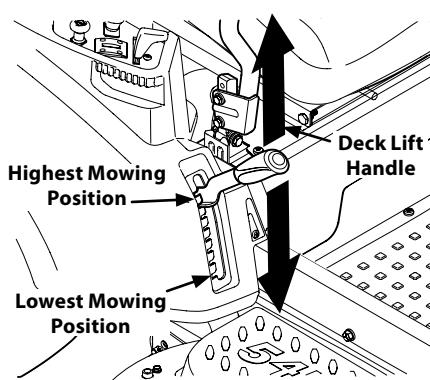

Figure 4-14
- Using the deck lift handle, raise the deck to the position that provides the most horizontal run of the belt between the deck idler pulleys and the PTO pulley on the bottom of the engine. See Figure 4-14.
- Lower the deck into the lowest mowing position using the deck lift handle. See Figure 4-14.
- e. Lower the deck into the lowest mowing position using the deck lift handle. See Figure 4-14.
11. Place the deck lift handle into the highest mowing position and slide the deck out from beneath the tractor. See Figure 4-14.
- Place the deck lift handle in the highest mowing position. See Figure 4-14.